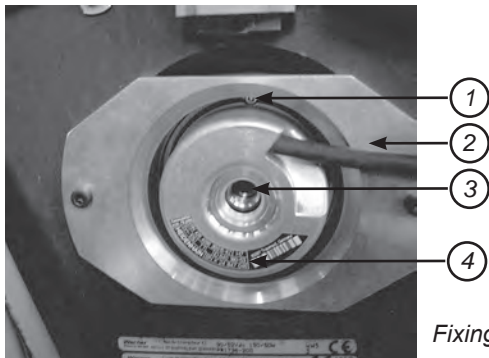

Fig. 7:
Identify the encoder by means of the reference indicated on the encoder label (Fig. 7)
IMPORTANT: Do not dismantle the encoder support piece (Ref. 2 fig. 7) fixed on the brake. It is centre-mounted in the factory to the nearest 0.1 mm using a special tool.
- Undo (2 turns with a SW2 spanner) the fixing screw on the encoder casing (Ref. 1 fig. 7) in the support piece.
- Tighten the small M2.5 chc screw (Ref. 1 fig. 7) (SW2 torque wrench or screwdriver) on the encoder casing to a torque of 1.25 Nm 0/-0.2 Nm.